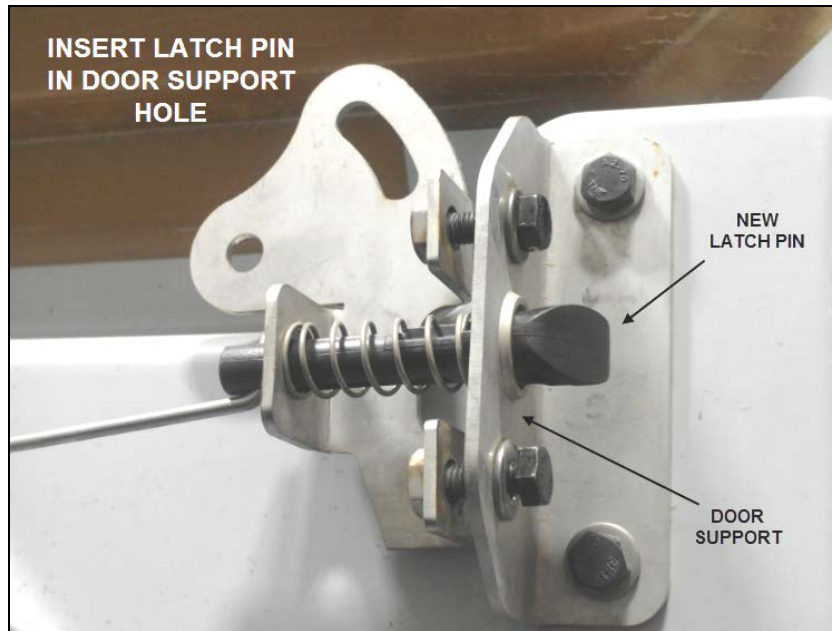

FIG.15 PIN ASSEMBLY TO DOOR SUPPORT INSTALLATION
14. Insert latch pin (& bracket assembly) into door support hole, engage a few threads of the bracket screws to maintain in place (Fig.15).